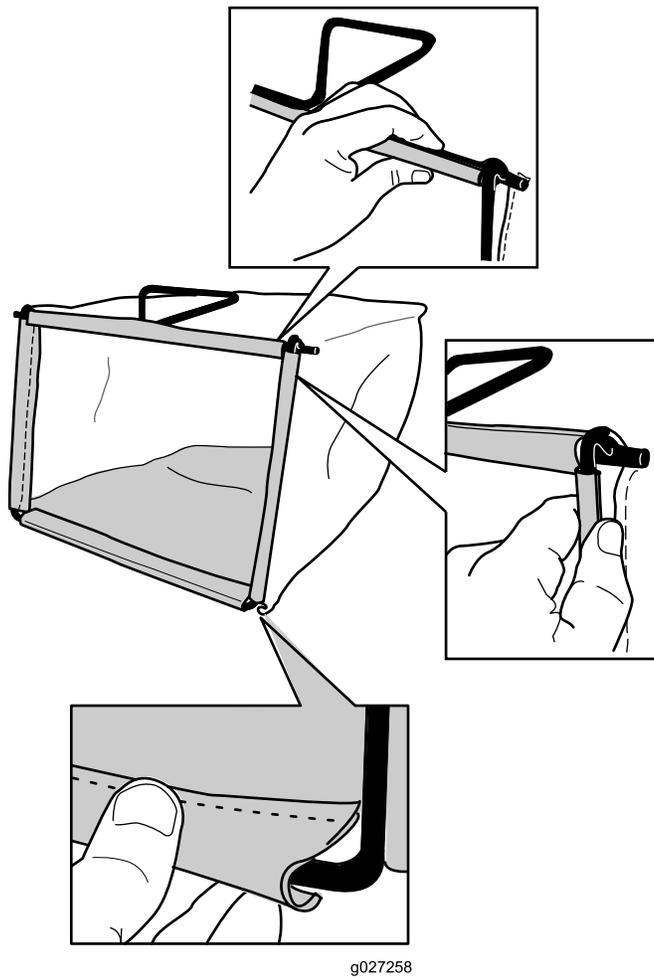

Figure 6
2. Hook the bottom channel of the bag onto the bottom of the frame (Figure 6).
- Hook the top and side channels of the bag onto the top and sides of the frame, respectively (Figure 6).